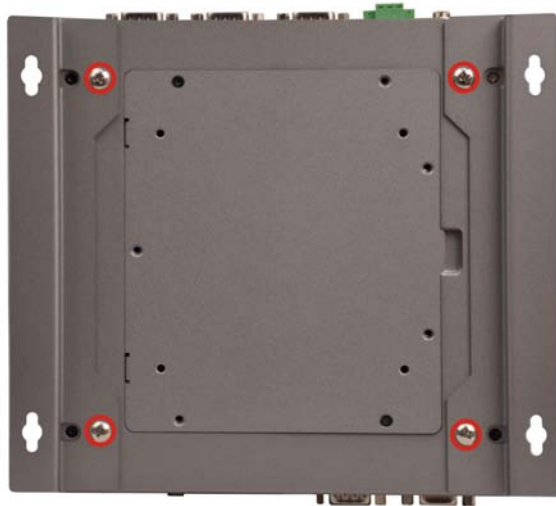

Figure 3-10: Mounting Bracket Retention Screws
Step 2: Align the two retention screw holes in each bracket with the corresponding retention screw holes on the bottom panel (**Figure 3-10**).
Step 3: Secure the brackets to the system by inserting two retention screws into each bracket (**Figure 3-10**).